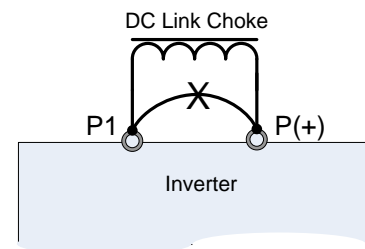

**Fig. 2-3-2 Connecting the Auxiliary Control-Power Input Terminals**
The inverter will operate even if power is not provided to these terminals. If a protective circuit is activated and the magnetic contactor on the inverter power input side is opened (off), the inverter control circuit power, the alarm output (30A, B, and C), and the keypad display will lose power. To prevent this, the same AC power as supplied to the main input circuit must be supplied (as auxiliary control power) to the auxiliary control - power input terminals (R0 and T0). (see Fig. 2-3-2)
- b. When the RCD (Residual-current Protective Device) is installed (30HP/CT, 40HP/VT or less), the terminal R0 and T0 should be connected to the output side of the RCD. If they are connected to the input side, the RCD will malfunction because the power supply of the inverter is three phase and the R0 and T0 input is single phase. If it is required to connect terminals R0 and T0 are to the input side of the RCD, an isolation transformer is required as shown on the Fig. 2-3-2.